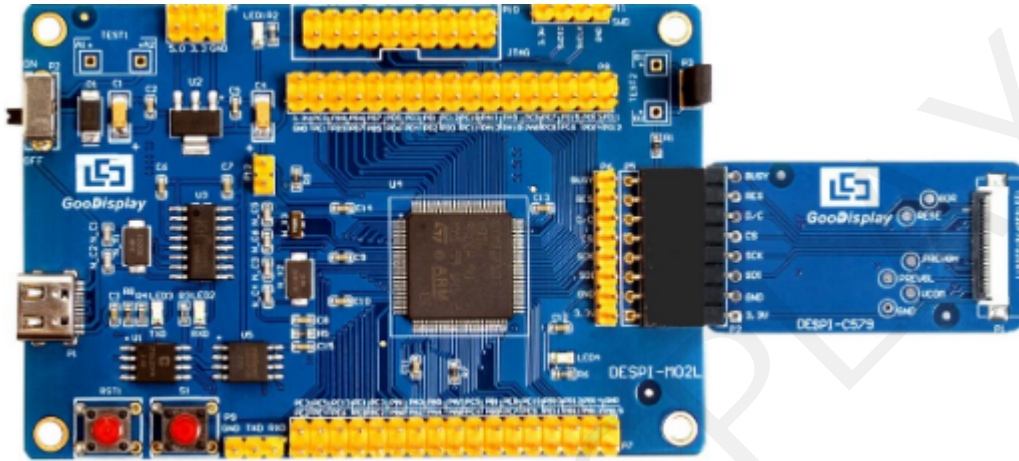
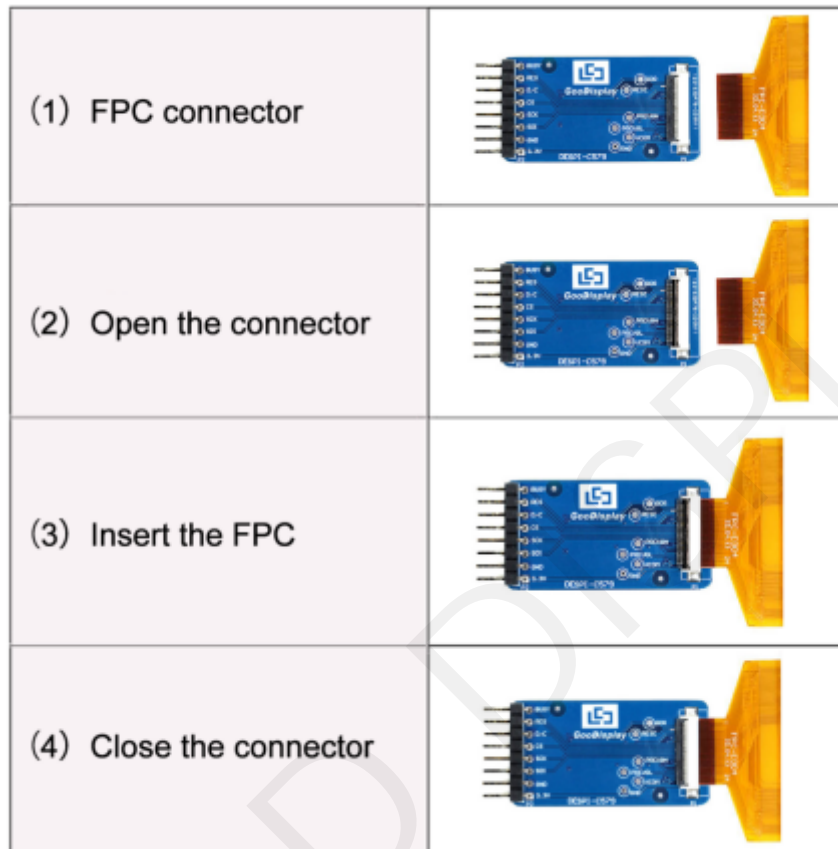

Figure 3 : Connection between main board and adapter
Figure 4.2 : Connection between DESPI-C579 and e-paper display
1) Connect the main board and the adapter board as shown in Figure 3, and connect the electronic paper FPC to the connector of the adapter board as shown in Figure 4.2
3) Connect the e-paper display FPC to DESPI-C579 as shown in Figure 4.2. (Pay attention to the direction of the e-paper display.) And set P8 to NC.